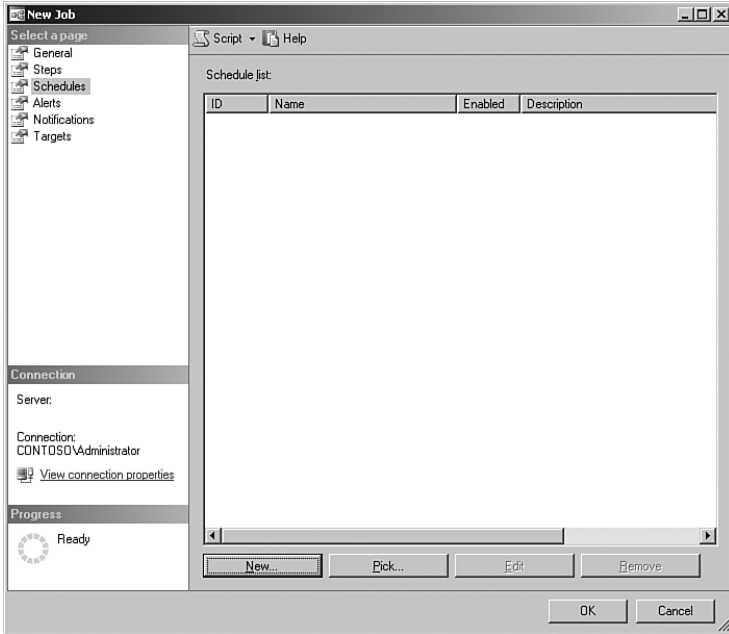

FIGURE 12.16 The New Job Schedules page.
9. Select the Schedules page (see Figure 12.16) and click New to add a new schedule.